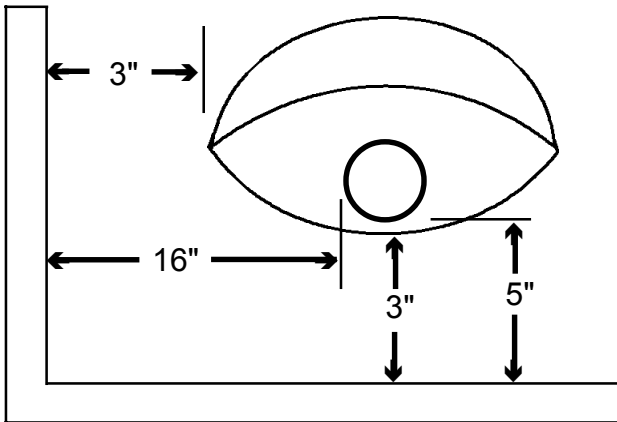

Figure 1
The minimum clearances from the appliance to combustibles are shown on figures 1 and 2. Place the appliance on a flat, solid, continuous surface (i.e. wood, tile, concrete, metal). The unit must be placed on wood or metal panel extending the full width and depth of the unit, when installed on carpet or other combustible materials.
- 1. Position unit to comply with the minimum clearances to combustible materials. Minimum clearances are shown in figures 1 and 2. It is recommended that no overhead cross members in the ceiling or roof be cut. Reposition unit if necessary, being careful not to move closer than the minimum clearances.**